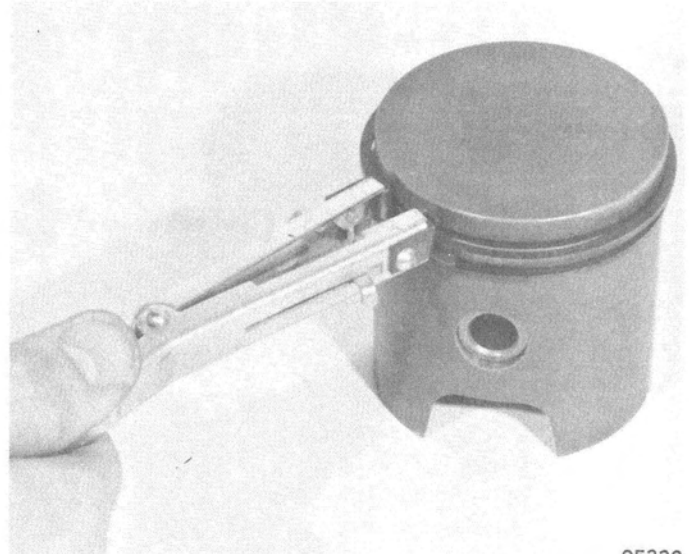

Figure 8. Piston Ring Replacement
4. Install new piston rings with Tool C-91-24697. (Figure 8)